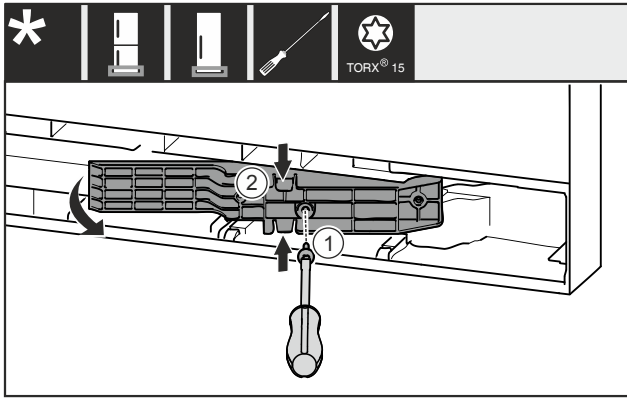

Fig. 19 *
- ▶ Remove the screw Fig. 19 (1)*
- ▶ Gently press the adapter piece Fig. 19 (2) together at the top and bottom and pull it out.*